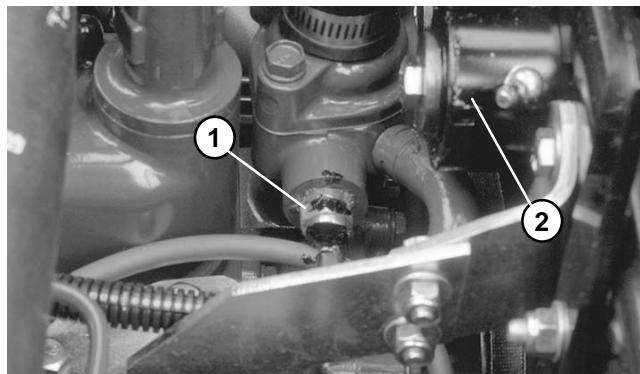
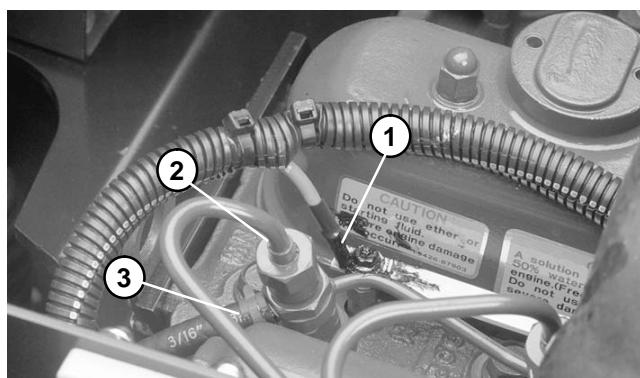

Figure 30
Figure 31
- C. High temperature shutdown switch (Fig. 30). Glow plug bus (Fig. 31).
8. Disconnect fuel hose from the rear injector nozzle (Fig. 31).
8. Connect fuel hose to the rear injector nozzle (Fig. 31).
A. Glow plug bus (Fig. 31). High temperature shutdown switch (Fig. 30).